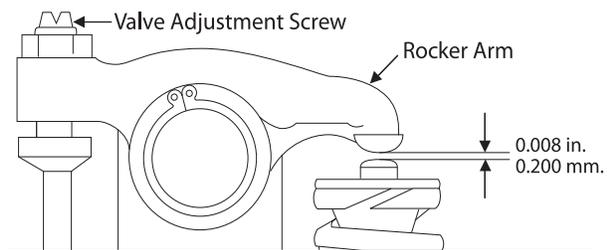

Figure 10: Valve Adjustment
4. Loosen the lock nut and adjust the clearance between the rocker arm and valve stem of both the intake and exhaust valves with the adjustment screw (Figure 10). Clearance on both intake and exhaust valves should be 0.008 in. (0.2 mm).